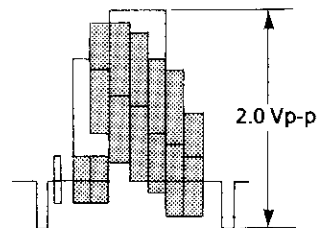

Figure 2-9.
2. Hook up the oscilloscope to pin ⑨ of IC201. Adjust R201 (playback level control) so that the on-screen waveform be $2.0 \pm 0.1\text{Vp-p}$ as shown in Figure 2-9.